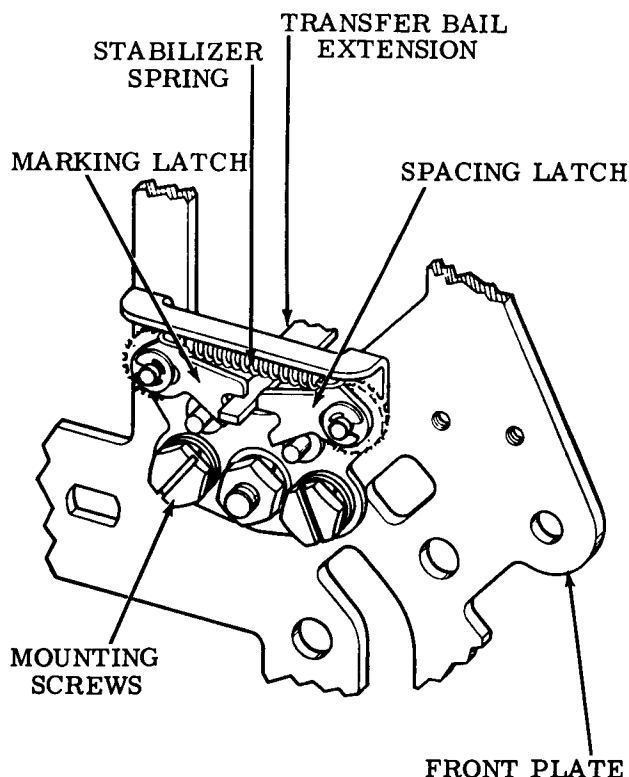

Figure 13 - Transfer Bail Stabilizer
4.08 Further rotation of the main shaft moves the lobe of the start cam into position so it cams its respective transfer lever. Since the start transfer lever has no sensing pin, the lever is always in the spacing position. The start transfer lever upper finger hooks the upper side of the transfer bail and causes it to pivot clockwise. The transfer bail extension (Figure 12) moves the signal generator drive link causing the toggle to open the marking contact and close the spacing contact in the signal generator contact assembly. The extension, in moving to the spacing position, forces the marking latch on the stabilizer (Figure 13) out of its way and continues its travel far enough to let the spacing latch fall into the latching position simulating a detent action.